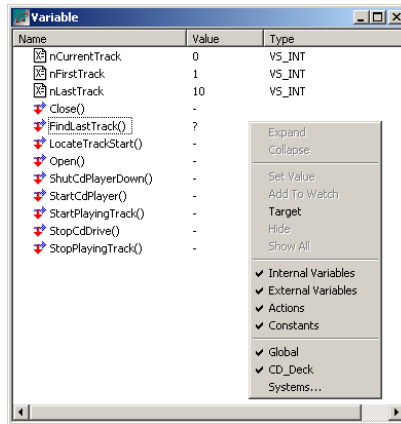

Figure 148: Target command in Validator window
- Click in the window and choose **Target** from the pop-up menu (see *Figure 148*, page 181), or press ALT+F8.